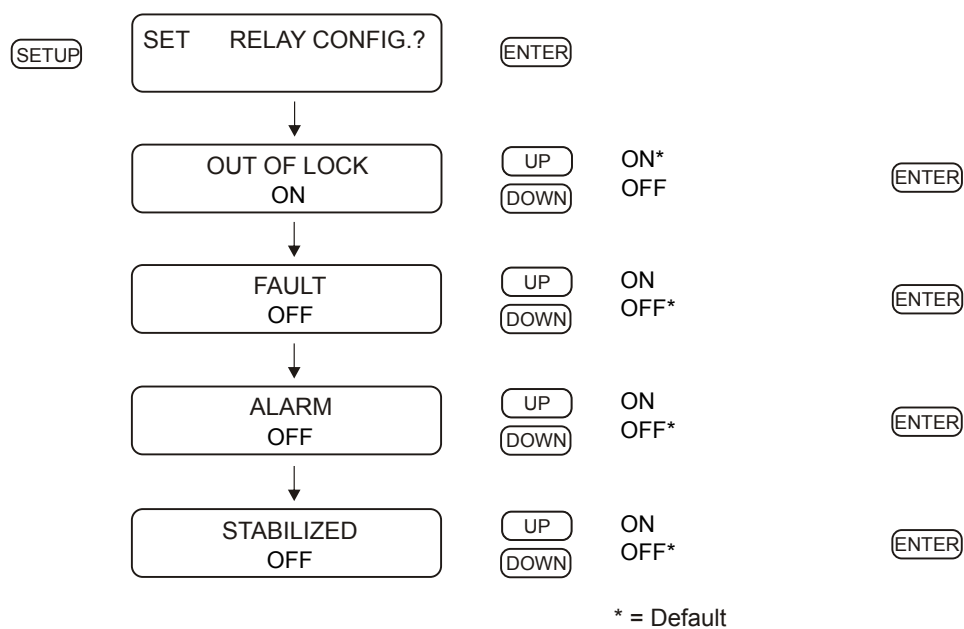

Figure 8.7: Relay Setup
Use the “SET RELAY CONFIG?” menu to configure how the multipurpose relay responds to several clock conditions. Clock conditions include (1) out of lock, (2) faults, (3) alarms, (4) stabilization, and (5) failsafe. These are described in the setup procedure shown in Figure 8.7. Alarms consist of any outside influence, such as a sudden change in GNSS position¹, that may affect the operation of the clock. Faults consist of an internal hardware problem with the clock, such as an oscillator failure, or a GNSS receiver failure. See page 29 for a description of fault conditions. Failsafe refers to the relay faulting when the clock loses power. All of these events may be configured to trigger the relay separately or concurrently. The relay may also be configured to actuate with a programmable pulse, which is discussed below.
To work with built-in programmable pulse features, set up the relay jumper (JMP10) as discussed in Section 5.2.4, then set up the programmable pulse mode as discussed in Section 8.9. Configuration settings described in Figure 8.7 do not apply to the relay when the relay jumper (JMP10) is set for Programmable Pulse. However, the front-panel annunciator LEDs and other indications still apply to out-of-lock condition, faults, and alarms when the relay jumper is set for programmable pulse.